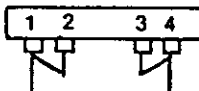
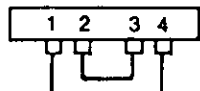

Fig. 1
Fig. 2
**INPUT CONNECTIONS:** When operating with 115 VAC input, place a jumper between transformer terminals one (1) and two (2) and also between three (3) and four (4). Then connect the AC primary leads to terminals one (1) and four (4) as shown in Fig. 1. When operating with 230 VAC input, place a jumper between transformer terminals two (2) and three (3) and connect the AC primary leads to terminals one (1) and four (4) as shown in Fig. 2.